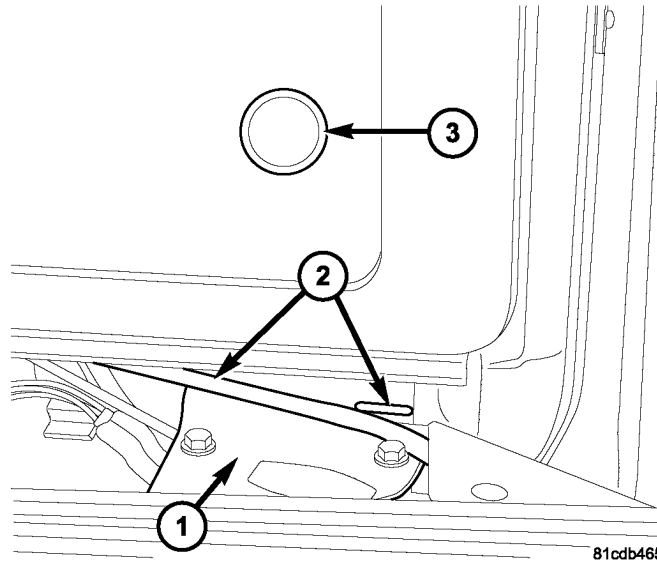

Fig. 6 LOWER HINGE
11. Remove access plug in the sliding door trim panel, (lower front corner) (Fig. 6).